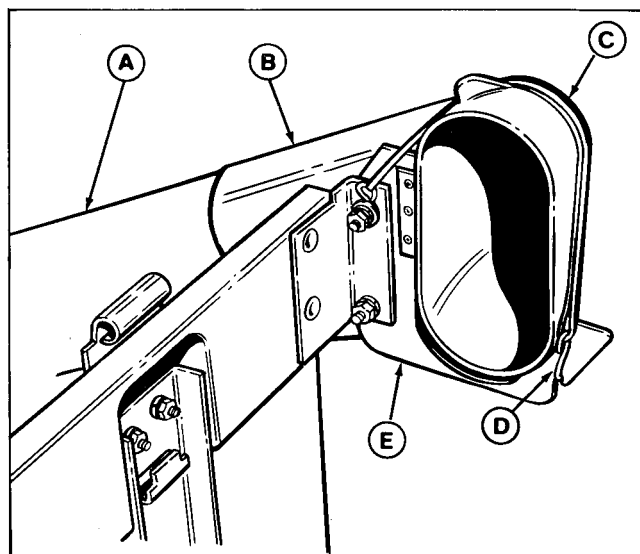

Figure 31.
8. Insert tube (A, figure 31) into elbow, then insert the elbow (B) into the elbow bracket (E). Pull the rubber strap (C) over the elbow and hook as shown.